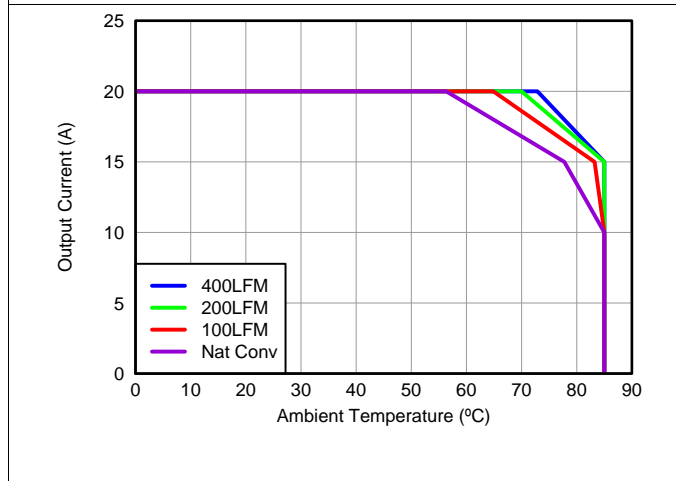

Figure 3. Safe Operating Area – PCB Vertical Mount ⁽¹⁾
The SOA curves in the CSD87330Q3D data sheet provides guidance on the temperature boundaries within an operating system by incorporating the thermal resistance and system power loss. **Figure 3** to **Figure 5** outline the temperature and airflow conditions required for a given load current. The area under the curve dictates the safe operating area. All the curves are based on measurements made on a PCB design with dimensions of 4 in (W) × 3.5 in (L) × 0.062 in (T) and 6 copper layers of 1 oz copper thickness.